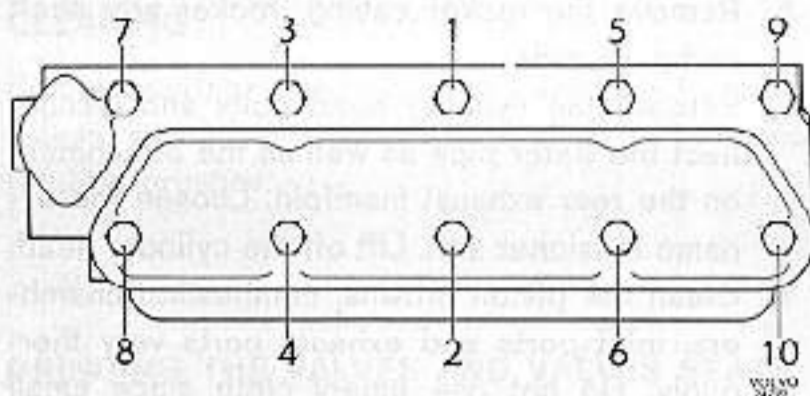
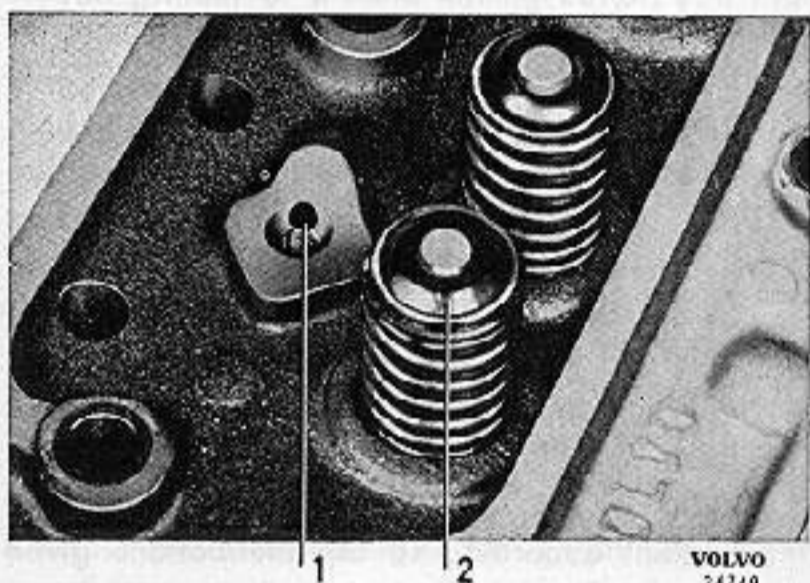
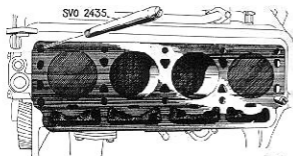

Fig. 17. Tightening sequence for cylinder head bolts
Fig. 18. Cylinder head
Fig. 20. Guide pins for fitting the cylinder head
The cylinder head is fitted with the help of guide pins (SVO 2435). The bolts must be tightened in a certain sequence as shown in Fig. 17, in order to avoid unnecessary stresses. Check that the oil hole (1, Fig. 18) for lubricating the rocker arms is clear.
- Fit the valves. Screw the guide pins SVO 2435 into the block, one in the front right-hand hole and the other in the left-hand rear hole, see Fig. 20. Install a new cylinder head gasket and new sealing rings for the water pump and fit the cylinder head. Screw out the gasket pins and fit the bolts in these holes as well. For tightening sequence and tightening torques, see Fig. 17 and at the end of "Specifications". Fit the other parts. Fill up with coolant according to the instructions given under "Filling with coolant when the system has been emptied".
3. Screw down the guide pins SVO 2485, one in the front right and one in the left bolt hole, see Fig. 20. Fit a new cylinder head gasket and then fit the cylinder head. Screw in the cylinder
Tighten the bolts in the correct order and to the correct torque. See Fig. 17 and "Specifications".